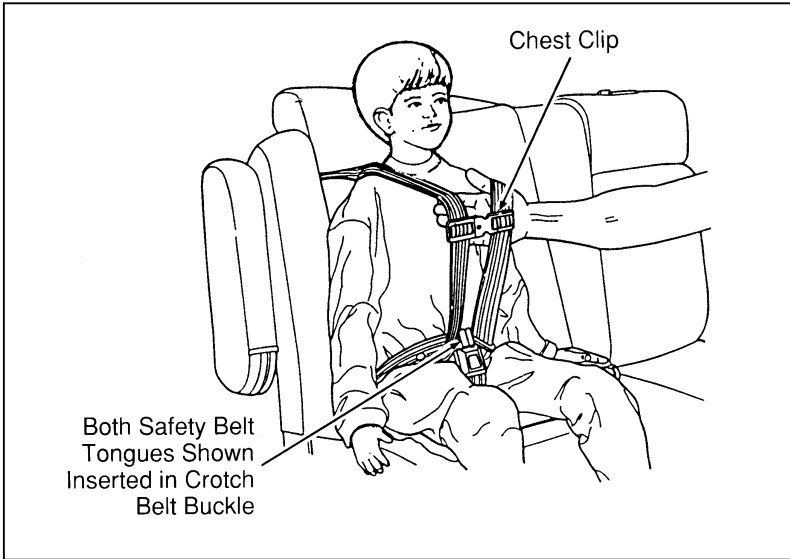

Figure 7: Checking for securely latched buckle and chest clip
8. Pull the shoulder belts out to ensure that the crotch safety belt buckle and chest clip are securely fastened. Refer to Figure 7.
7. Before placing the child into the child seat, forcibly tilt the seat from side to side and in forward directions to make sure that the seat is securely held in place. See Figure 7.